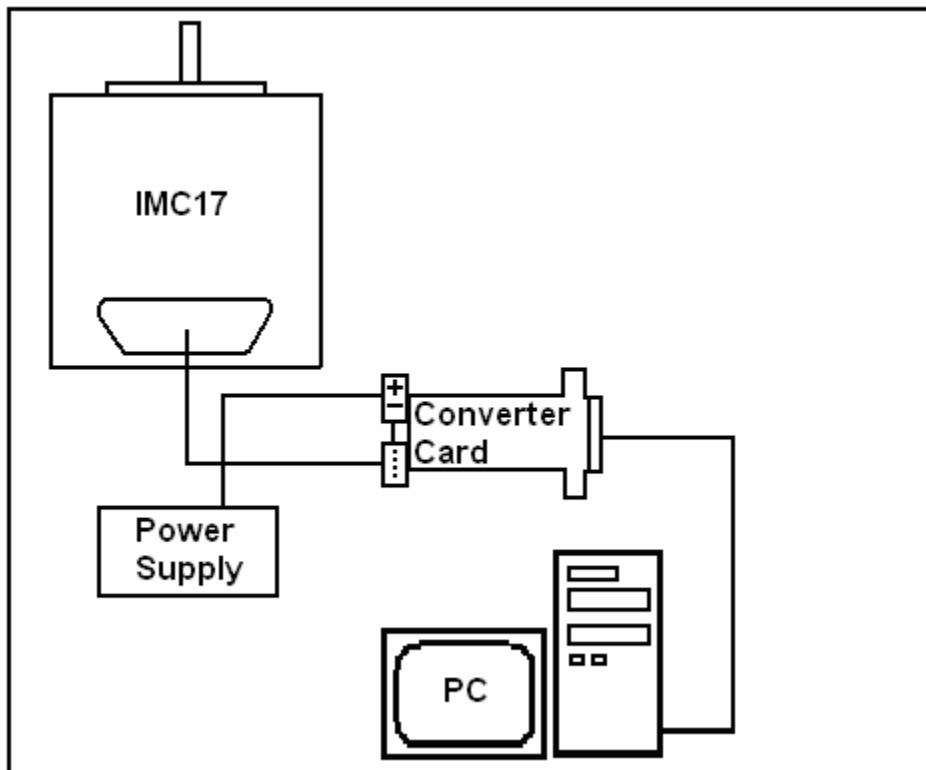

Figure 3: Connecting the IMC17
5. Turn on your Power Supply (See *Figure 3* below).